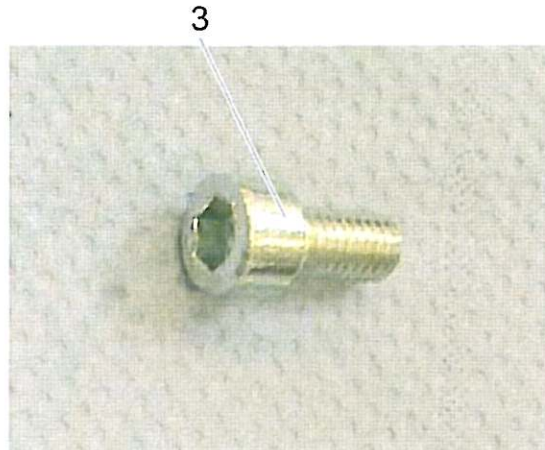
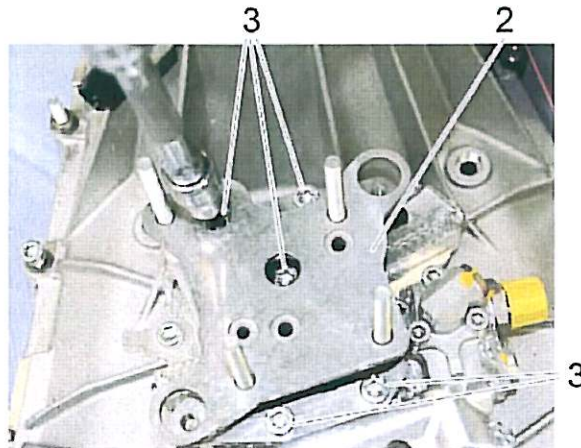

Figure 13
Figure 14
9. Place the vibration isolator (item 2) onto the adaptor plate (item 1). Hold the vibration isolator (item 2) in that position with one hand and attach the five screws (item 3). Tighten up the five screws (item 3) to the specified tightening torque, starting with the screw in the middle and proceeding cross-wise. See Figure 13 and Figure 14.